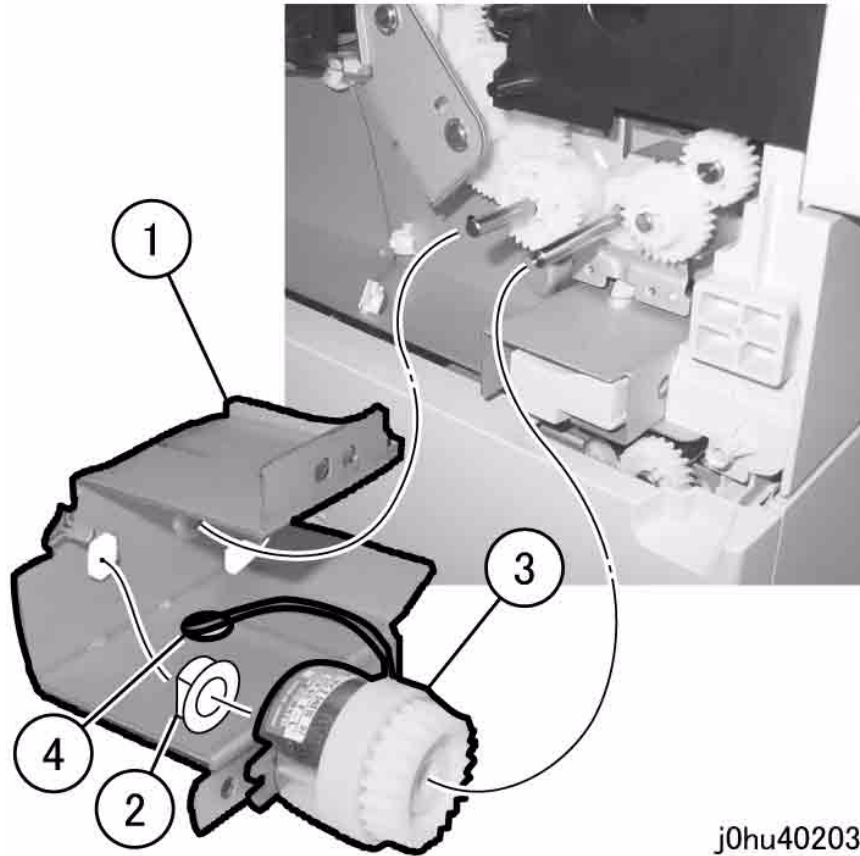

Figure 3 Remove Tray 1 Feed Clutch
4. Remove the Tray 1 Feed Clutch (Figure 3).